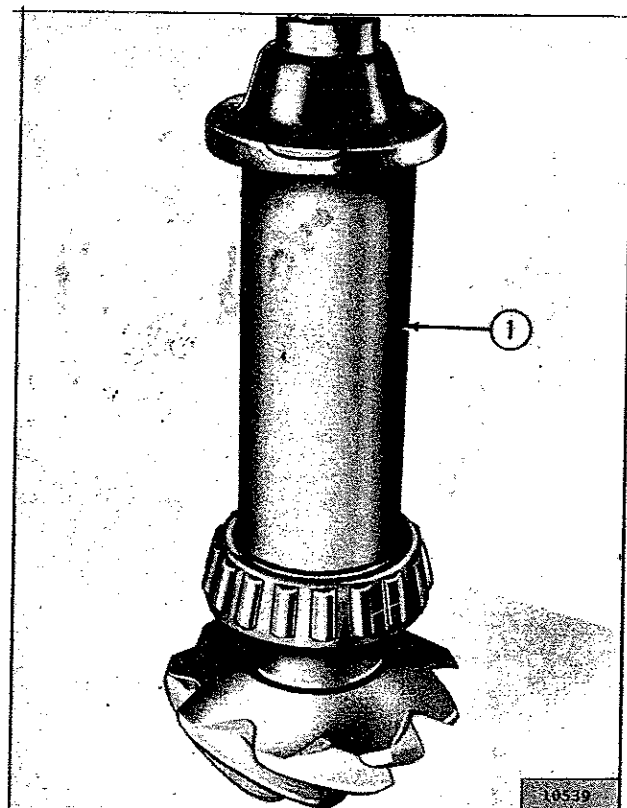

FIG. N-21—PINION BEARING INSTALLING SLEEVE
c. Use Tool C-3095 to press the inner bearing cone and roller onto the pinion shaft on axle Model 44. Other models use Tool W-262 as shown in Fig. N-21.